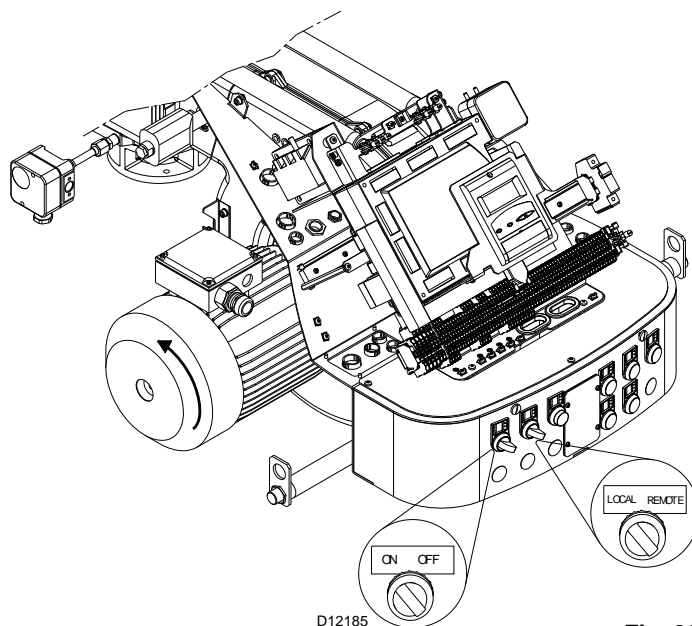

Fig. 32
- Turn the switch of Fig. 32 to position "ON" and turn the switch to position "LOCAL".